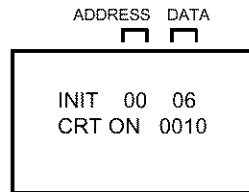

FIG. 1
2. Press both VOL. DOWN button on the set and Channel button (**6**) on the remote control for more than 1 second. ADDRESS and DATA should appear as FIG 1.